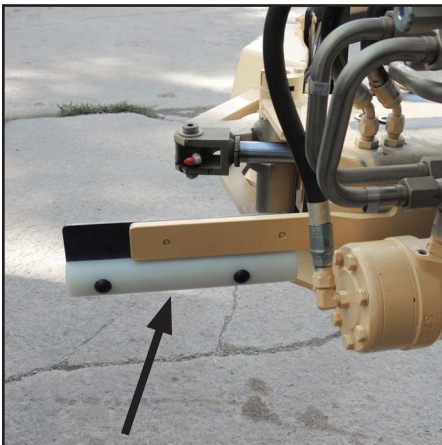

Figure 11
17. Install the new nylon hose abrasion control rod (P/N 1509941) on the **backside** of the mount using the new bolts (P/N 1543297) (Figure 11).